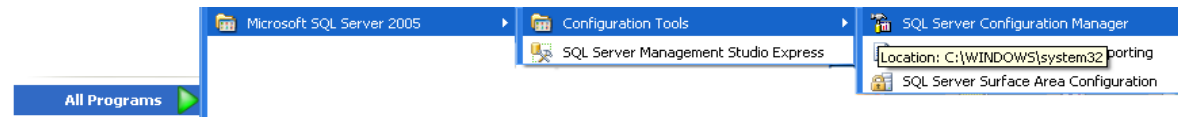

Figure III-2. Command String for SQL Server Configuration Manager
1. Click **Start > Programs > Microsoft SQL Server 2005 > Configuration Tools > SQL Server Configuration Manager** on the Windows Desktop (Figure III-2).